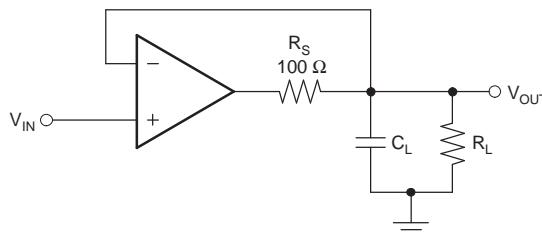
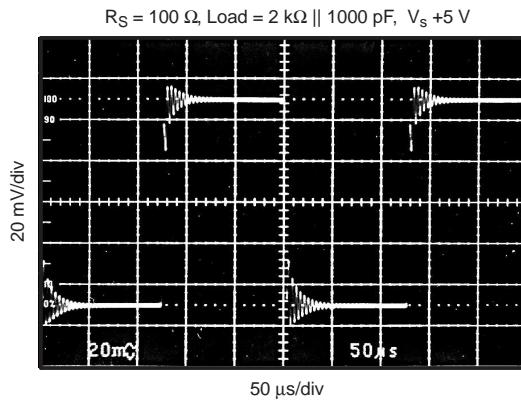
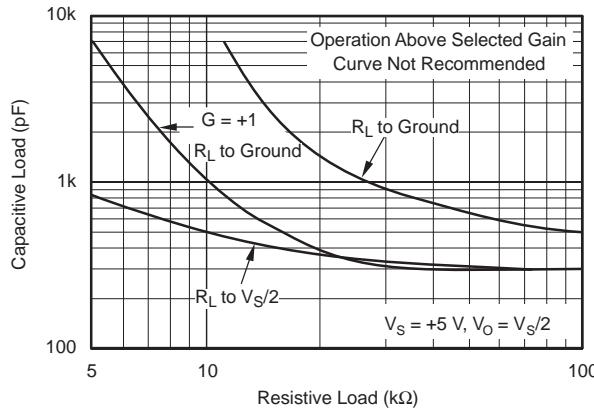

Figure 3. Series Resistor in Unity-Gain Configuration Improves Capacitive Load Drive
Figure 4. Small-Signal Step Response Using Series Resistor to Improve Capacitive Load Drive
Figure 5. Stability — Capacitive Load vs Resistive Load
One method of improving capacitive load drive in the unity-gain configuration is to insert a 50- Ω to 100- Ω resistor inside the feedback loop (see Figure 3). This reduces ringing with large capacitive loads, while maintaining direct current (DC) accuracy. For example, with $R_L = 25\text{ k}\Omega$, OPA336 performs well with capacitive loads in excess of 1000 pF (see Figure 4). Without the OPA336 R_S , capacitive load drive typically is 350 pF for these conditions (see Figure 5).
Figure 5 shows the recommended operating regions for the OPA336. Decreasing the load resistance generally improves capacitive load drive. Figure 5 also shows how stability differs, depending on where the resistive load is connected. With $G = 1$ and $R_L = 10 \text{ k}\Omega$ connected to $V_S/2$, the OPA336 typically can drive 500 pF. Connecting the same load to ground improves capacitive load drive to 1000 pF.